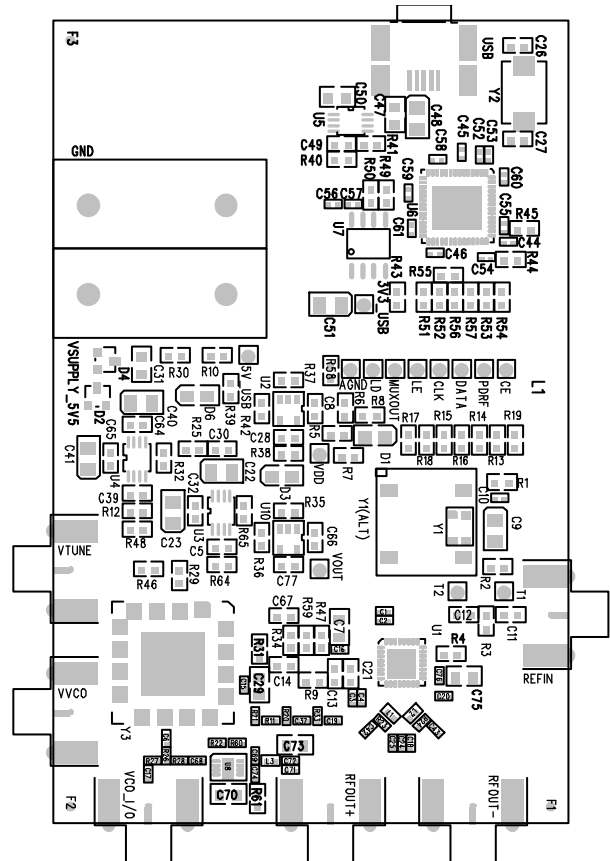
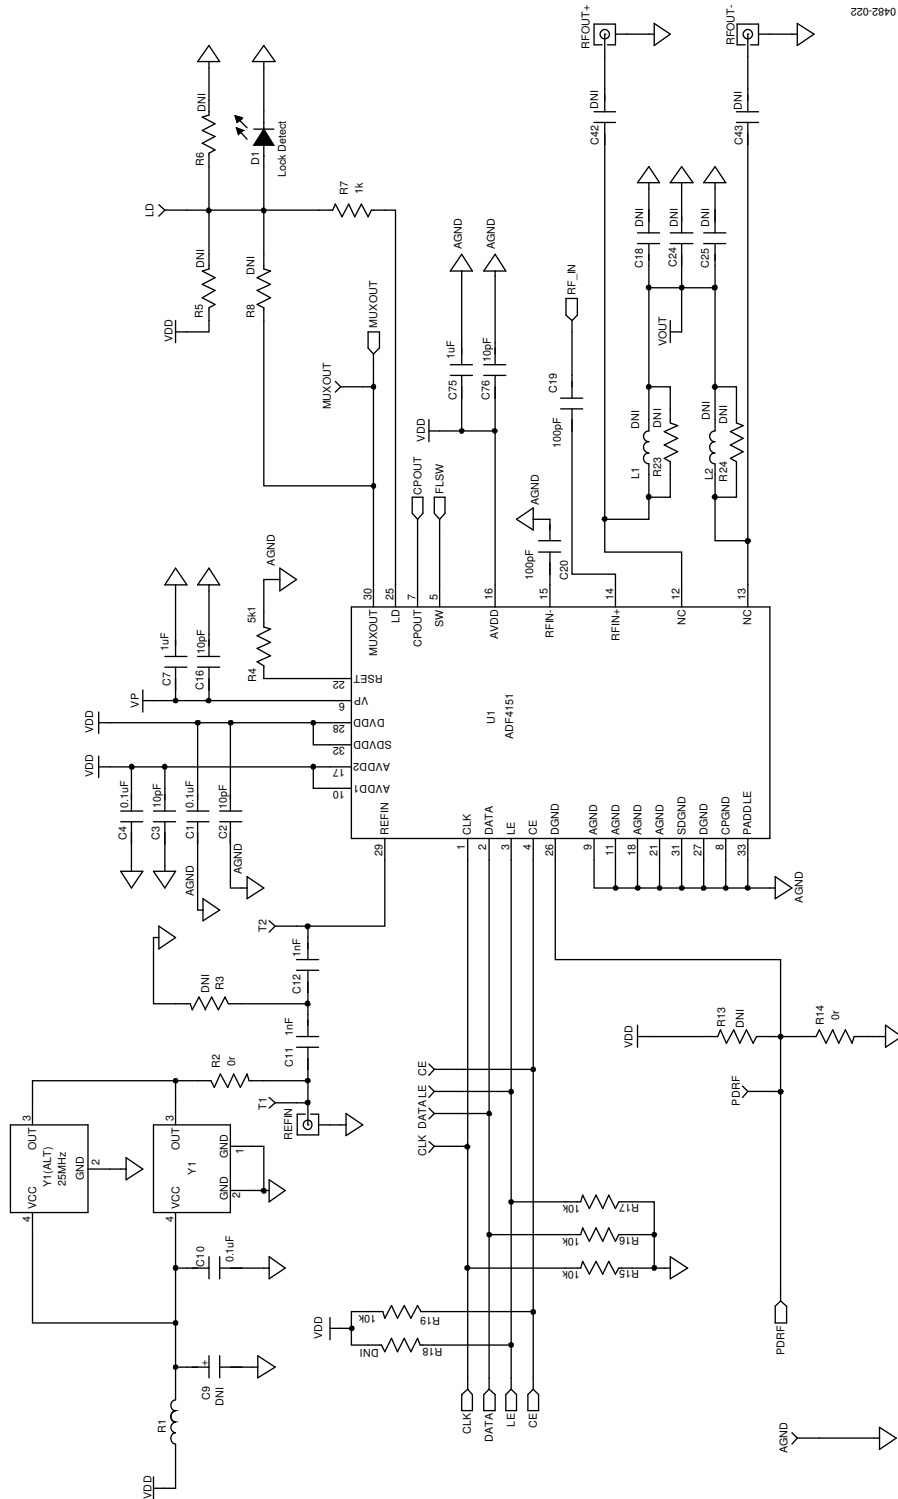
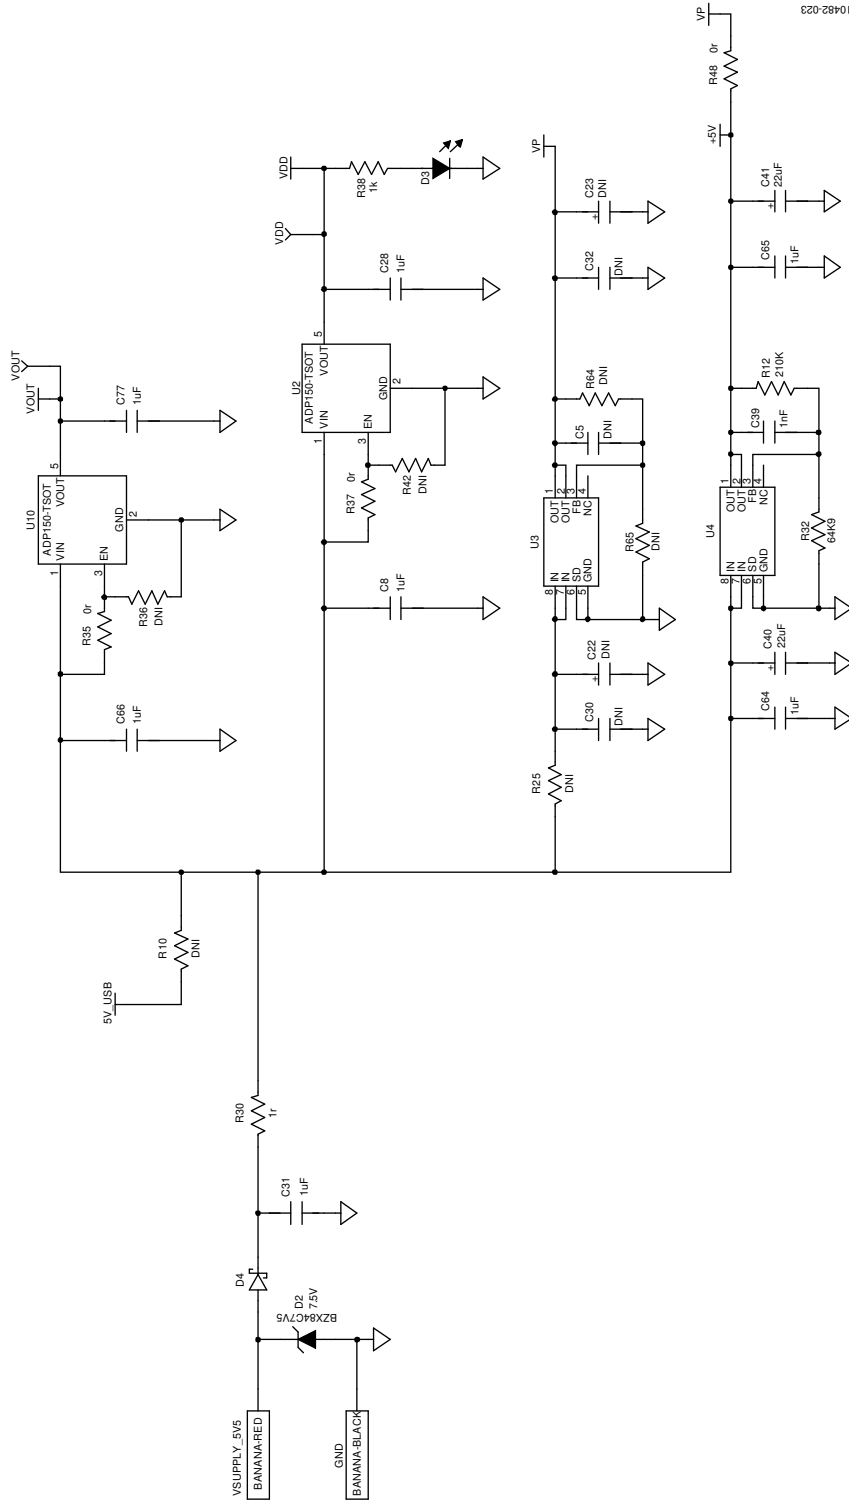
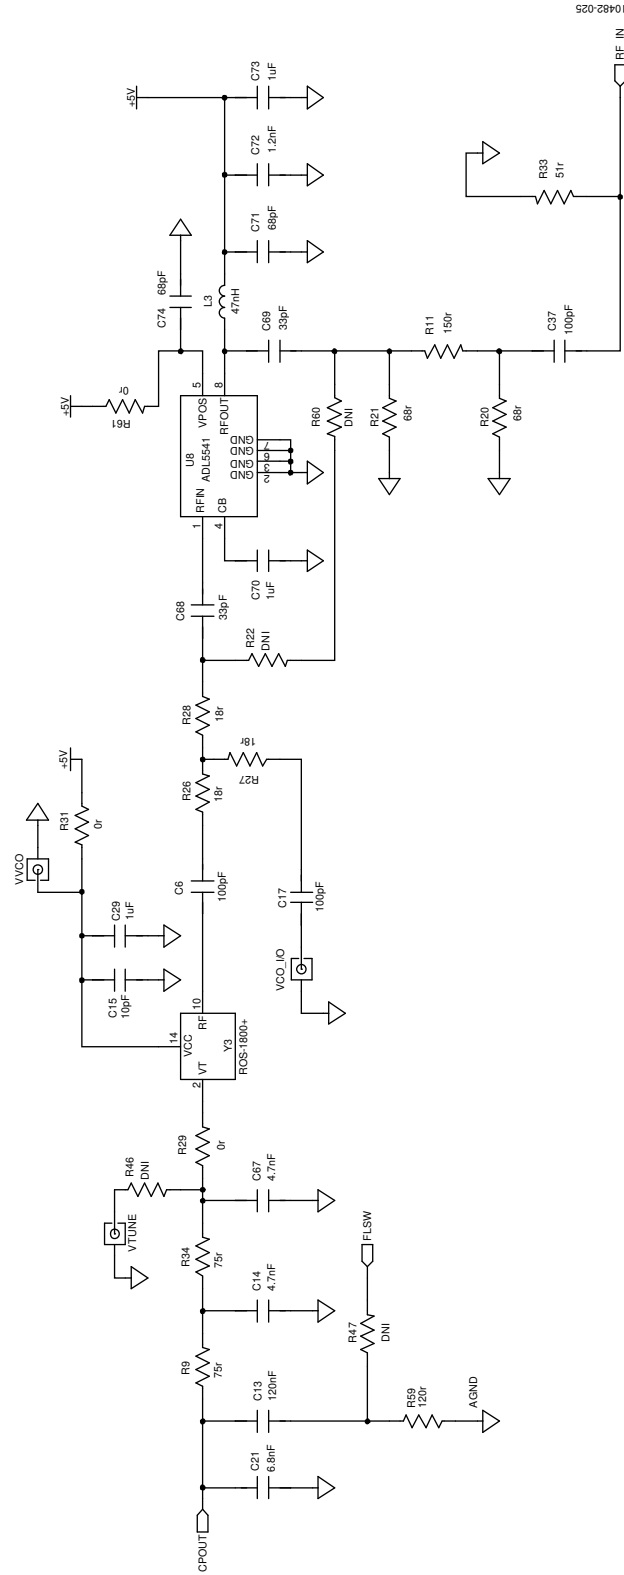

Figure 2. Evaluation Board Silkscreen
Figure 7. Evaluation Board Schematic (Page 1)
Figure 8. Evaluation Board Schematic (Page 2)
Figure 10. Evaluation Board Schematic (Page 4)
The EVAL-ADF4151EB1Z schematics are shown in Figure 7, Figure 8, Figure 9, and Figure 10. The silkscreen of the evaluation board is shown in Figure 2.
All components necessary for local oscillator (LO) generation are inserted on the board. The PLL is made up of the ADF4151 synthesizer, a fourth-order passive loop filter, and the VCO. The loop filter must be inserted between the charge pump output and the VCO input, as shown in Figure 10. If replacing the VCO, a VCO in a T-package (or similar) must be used. The RF output is available at the edge mount SMA connector, VCO\_I/O.